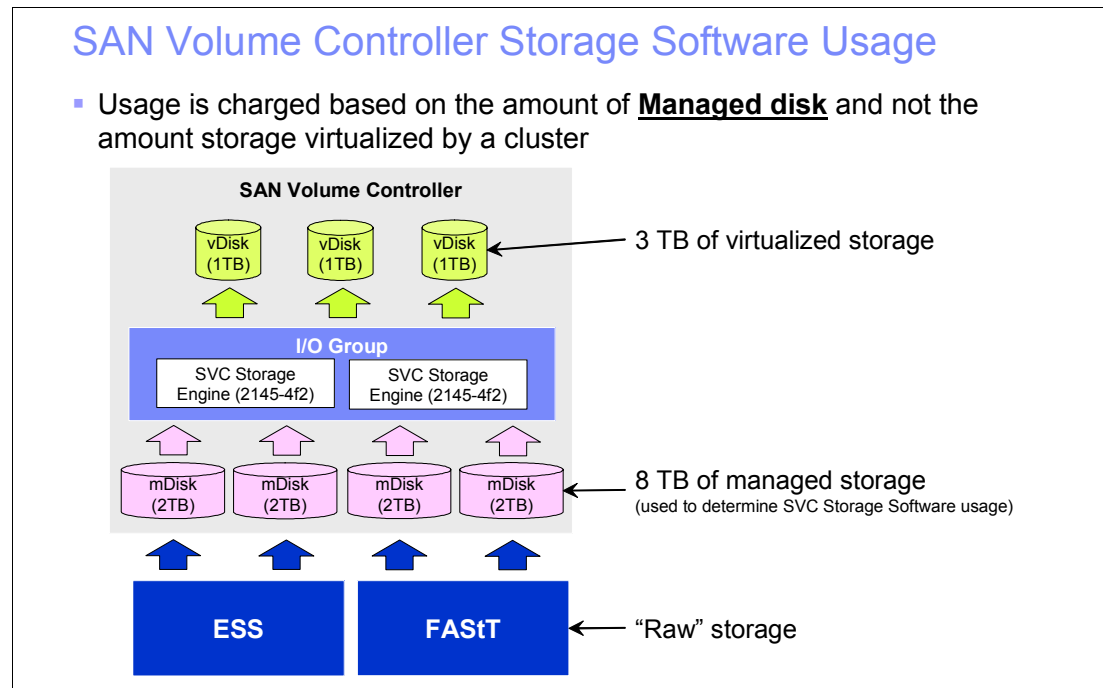

Figure 2-4 Base software license diagram
- The total amount of storage that is managed by the SAN Volume Controller cluster: This may be greater than the amount of storage that is virtualized by the cluster. See Figure 2-4.